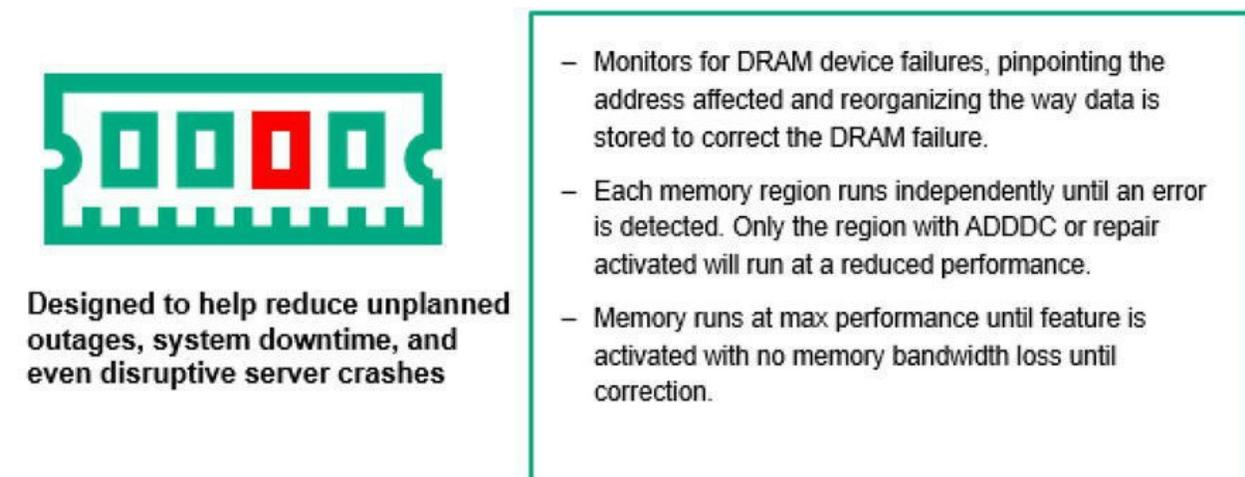

Figure 2-23 Seamless repair and recovery
- **Features, as indicated in Figure 2-23:**